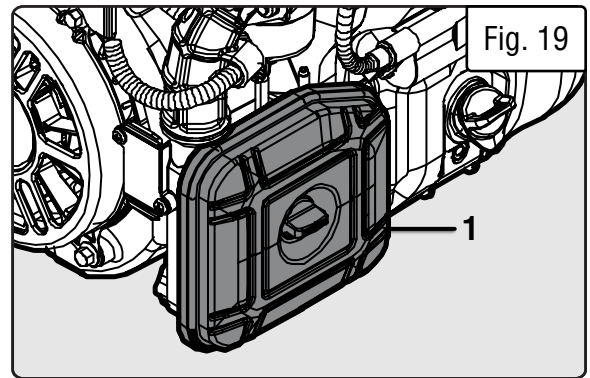

Fig. 19
2. Open the air filter cover (Fig. 19 - 1), and remove the foam air filter element from the casing.